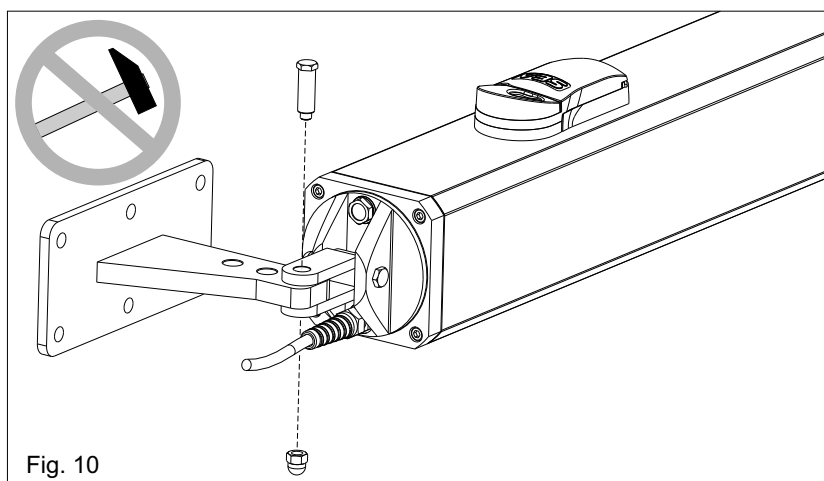

Fig. 10
- Attach the rear oscillating bracket as shown in fig. 10